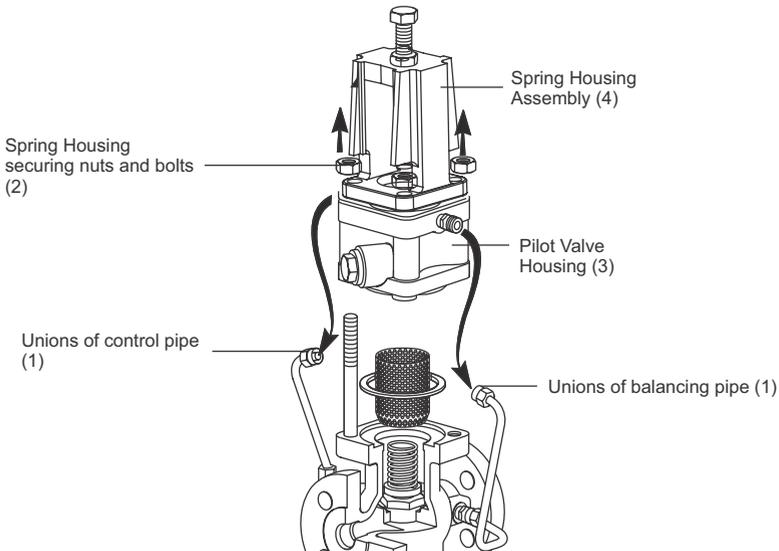

Figure 18: (FMPRV41 Steam/Air)
7.10 Procedure to service or renew the main valve and seat (FMPRV41 Steam/Air): (Refer to Figure 18, 19 and 20)
For this section refer to figure 18